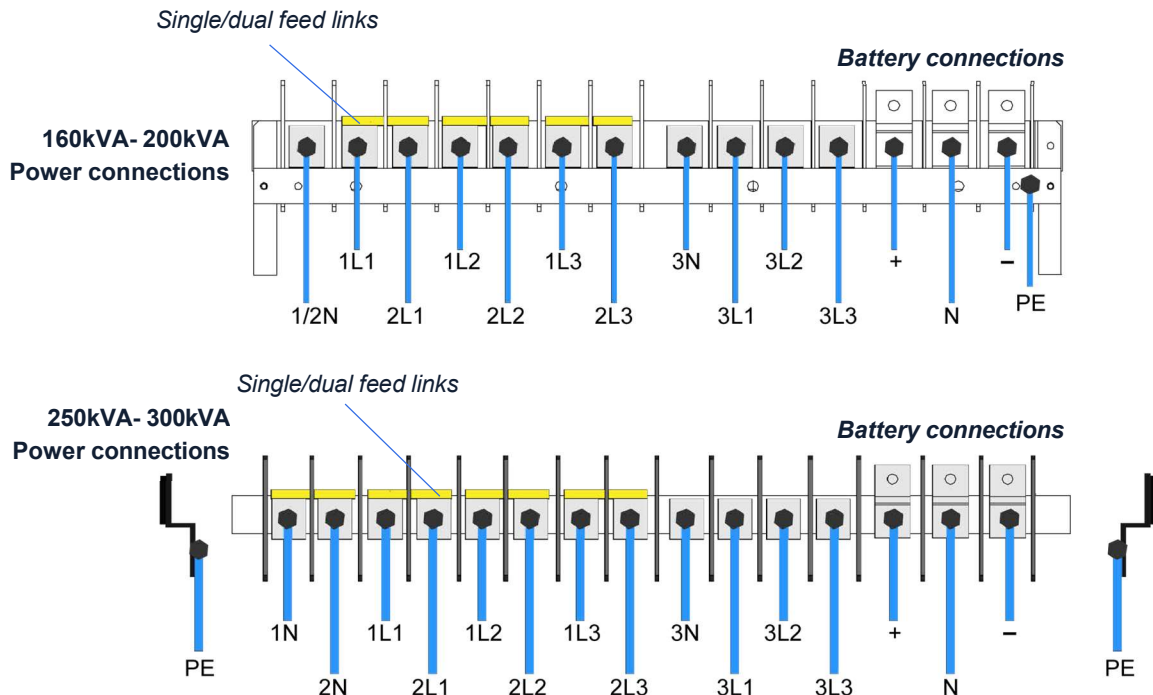

Figure 3.7 Power terminals
2. Connect the earth cable from the mains distribution board to the protective earth (PE) busbar, as shown in Figure 3.7.
*Note: As standard, the UPS is supplied for single feed input operation, with links fitted between 1L1-2L1; 1L2-2L2; 1L3-2L3 (and 1N-2N on the 250/300kVA models) as shown in Figure 3.7.*
7. Remove the links between 1L1-2L1; 1L2-2L2; 1L3-2L3 (and 1N-2N on the 250/300kVA models) – see Figure 3.7.
9. Connect the earth cable from the bypass mains distribution board to the protective earth (PE) busbar, as shown in Figure 3.7.
*Note: For 160-200kVA modules connect the bypass neutral to the same neutral terminal (N) as that used for the input supply, as shown in Figure 3.7.*
1. Connect the protective earth cable from the output (load) switchgear panel to the UPS output protective earth (PE) terminal, as shown in Figure 3.7.